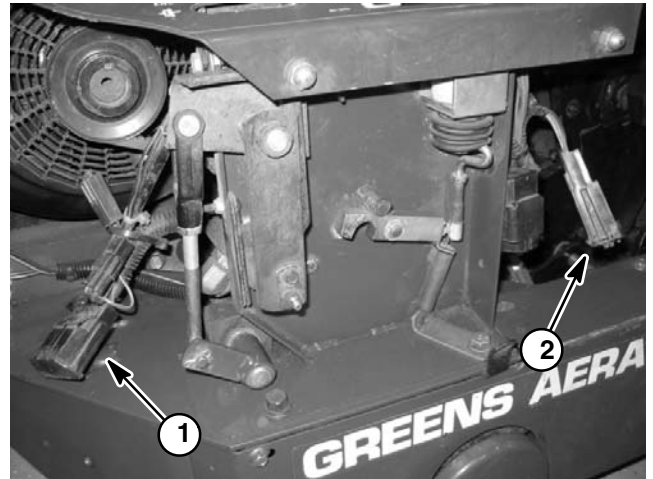

Figure 21
The Greens Aerator uses two (2) diode circuit boards that are located under the console cover (Fig. 21). One of these circuit boards has three (3) diodes while the other board has four (4) diodes.